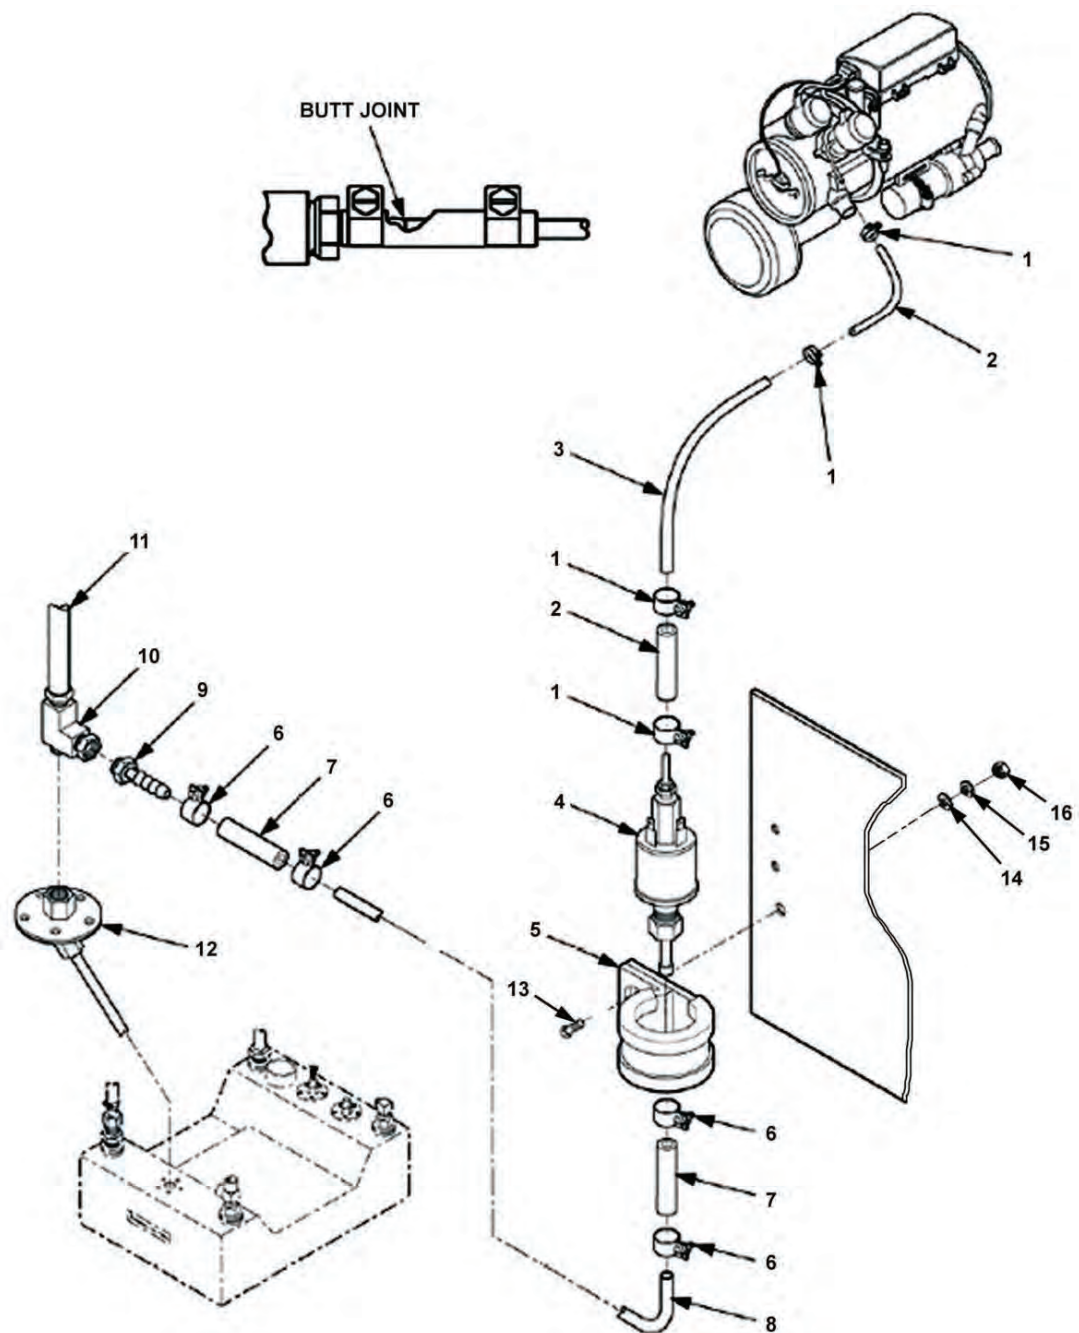

Figure 2. Fuel Pump and Lines Removal.
8. Remove Bolt (Figure 2, Item 13), flat washer (14), lockwasher (15), nut (16), clamp (5), fuel pump (4), butt splices (7), clamps (6 and 1), fuel lines (2, 3 and 8), barbed adapter (9) and fuel line tee (10) from fuel pickup tube assembly (12). Be sure to use a suitable container to catch any fuel from lines. Install generator fuel supply line (11) back into fuel pickup tube assembly (12).